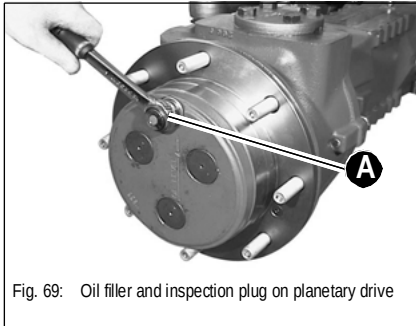

Fig. 69: Oil filler and inspection plug on planetary drive
- 2 Place plug **A** in the position shown in fig. 69 (plug must be at the top)